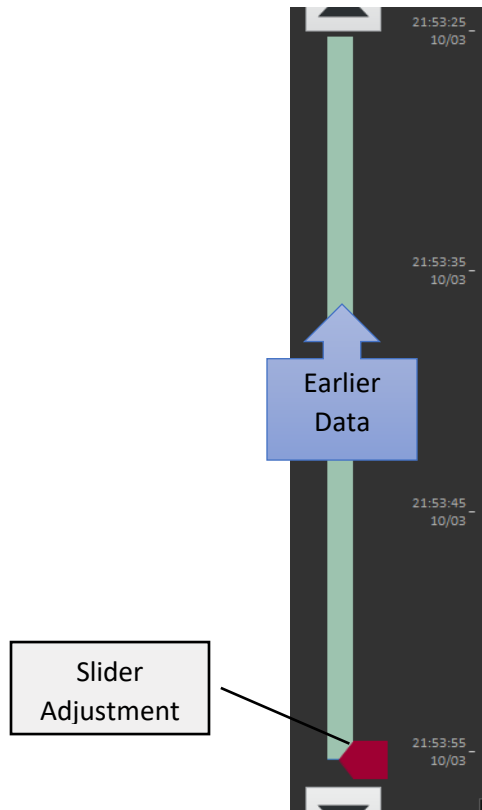

Figure 19. Historical Data Slider
The iRIS GUI gives the User the ability to review up to four (4) previous hours of data. *See Figure 19.*